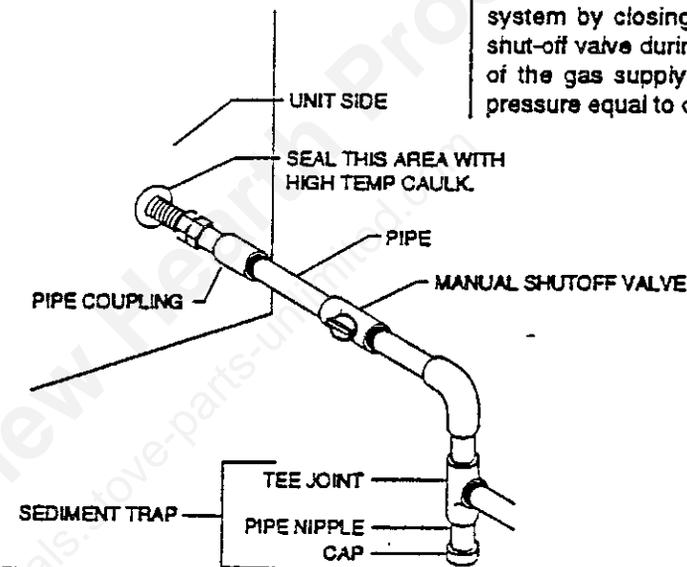

Fig. 7
E. Make gas connection to burner assembly with pipe or listed flexible connection. Seal space between pipe and knockout on firebox with high temp caulk. See Figure 7.